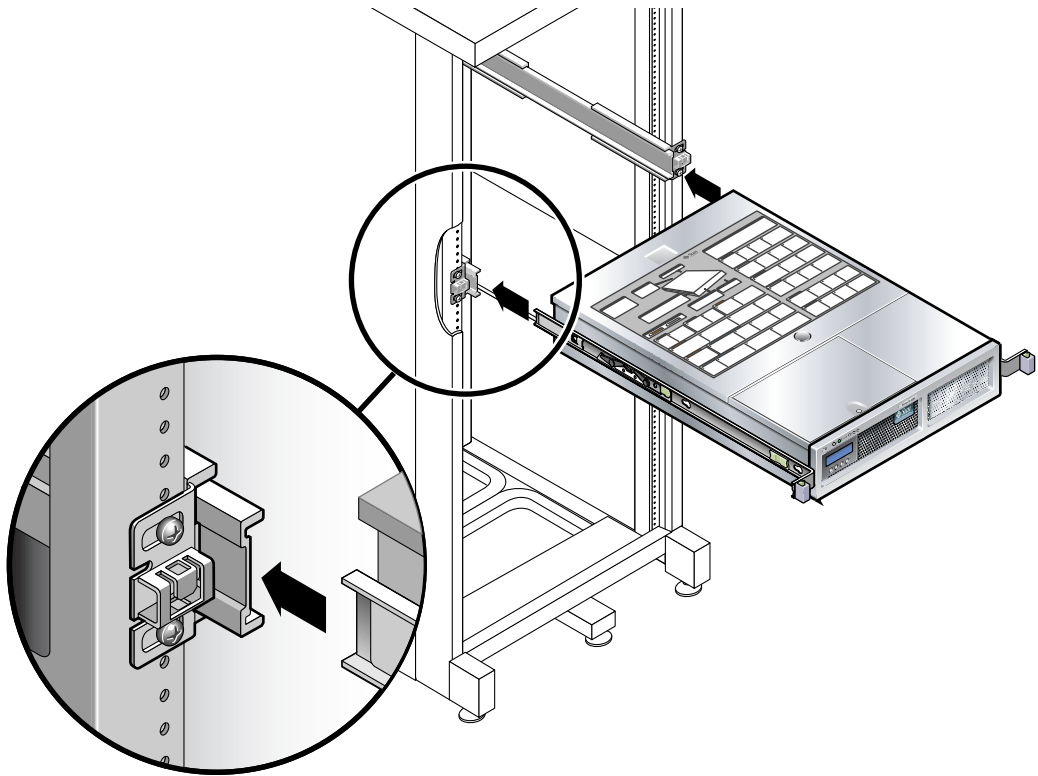

FIGURE 2-20 Mounting the Chassis on the Slide Rails
10. Insert the ends of the mounting brackets into the sliding rails (FIGURE 2-20).